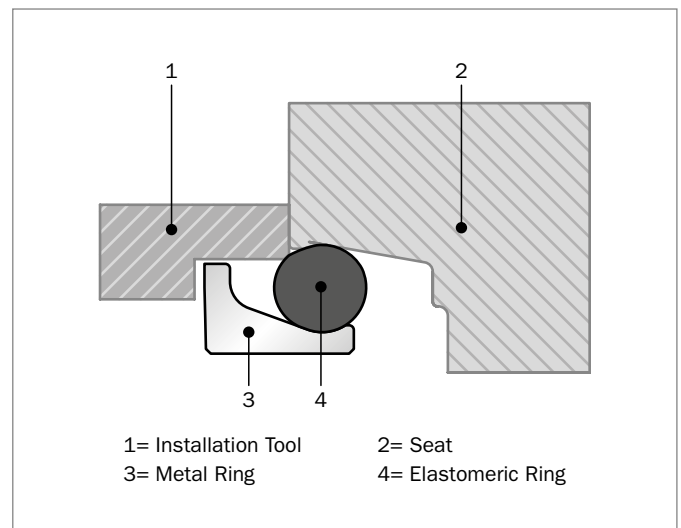

Figure 184: Installation Tool for DO Type
- Assemble each half seal into the house using an installation tool (Figure 184). Use a uniform load over the tool to push the half group in to the house until the elastomeric ring reaches the related housing border. The Installation Tool has to only touch the O-Ring and not the metal ring and importantly not the lapped surface. If you have any doubts or require assistance, please contact your local Customer Solution Center.